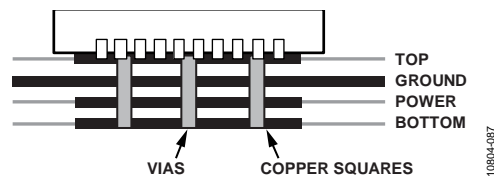

Figure 103. Exposed Pad Layout Example, Side View (Not to Scale)
- A copper layer equal in size to the exposed pad should be on all layers of the board, from top to bottom, and should connect somewhere to a dedicated copper board layer (see Figure 103).